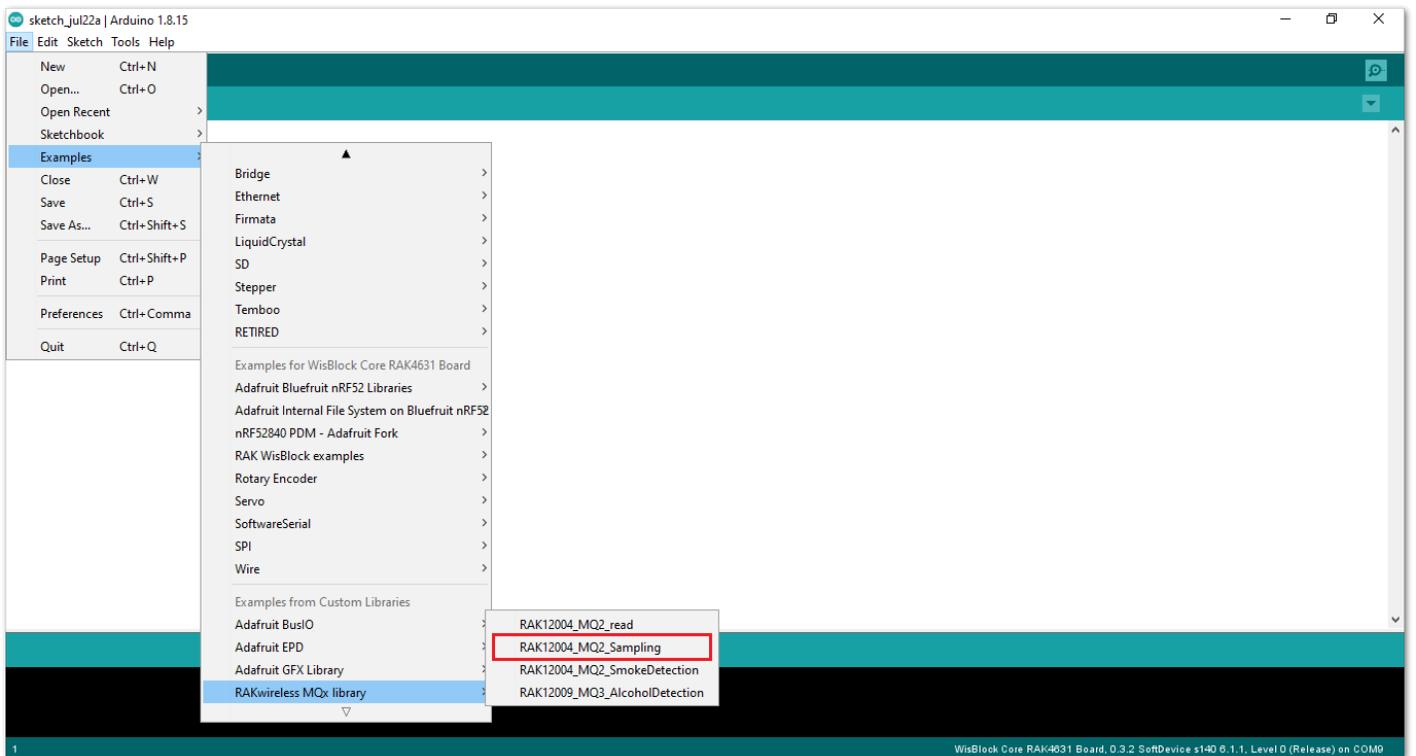

Figure 11: Open RAK12004 MQ2 Sampling Sketch
8. On the Arduino IDE, select **File -> Examples -> RAKWireless MQx Libraries -> RAK12004_MQ2_Sampling**, as shown in **Figure 11**.